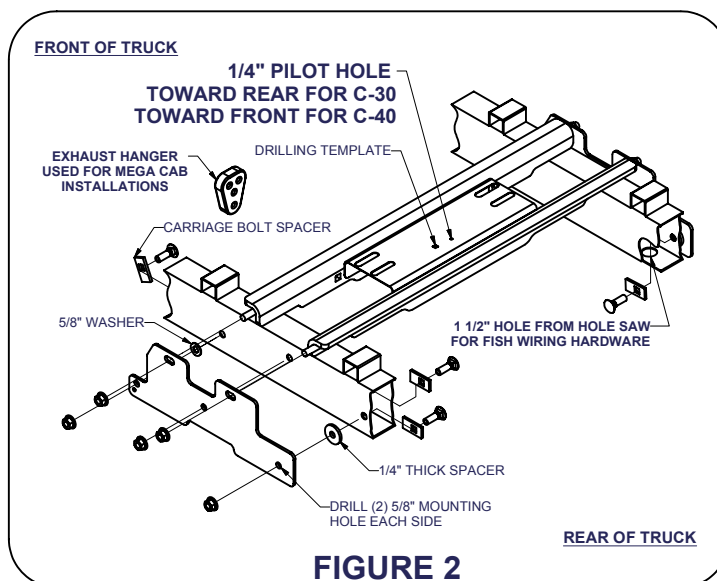

FIGURE 2
- 3) Use an 1 1/2" hole saw to drill an access hole through the bottom of the truck frame. Drill hole above rear axle and just behind the rubber stops mounted to the bottom of the frame. Drill hole on both sides of vehicle as shown in Figure 2.
- 4) Fishwire 5/8" carriage bolts and spacers through the previously drilled access holes. Pull carriage bolt threads out existing frame hole toward the front of truck, each side. Place a 5/8" washer between side plate and frame when pulling fishwire out through the side plates as shown in Figure 2. Secure each plate in place with a 5/8" flange nut. Finger tight only.
- 7) With side plates clamped and rear cross arm secure, position the drilling template provided between the cross arms as shown in Figure 2. Attach the template to the cross arms using four 5/8" carriage bolts and flange nuts provided with the center section. Tighten the 5/8" flange nuts with a 15/16" socket. (Note: Template must be positioned correctly based on application shown in Figure 2.)
- 12) With center section installation complete, the final side plate mounting holes can be drilled. Use holes in side plate as a guide to drill a 11/16" hole through the frame at both locations. **(See Figure 2 on page 1.)**